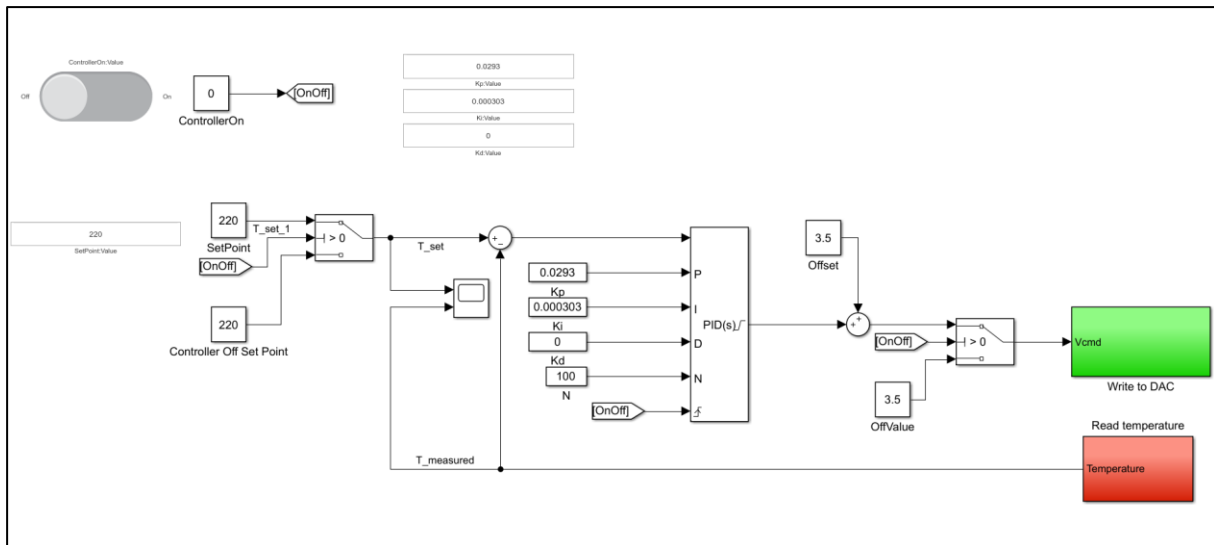

Figure 4. User Interface
1. Start MATLAB. Navigate to User\Desktop\Exp2 and open the Simulink file Exp2.slx. You should see Simulink model shown in Fig. 4, which is configured to be run externally on Arduino Mega 2560. Once you click run, Simulink Coder will generate the C source files according to your model and then generate & deploy the executable application to run on target hardware. The values you will observe on the Scope will be those transferred from Arduino Board, and you will use Dashboard blocks to send commands to the board (which will enable you to alter variable values without recompilation).